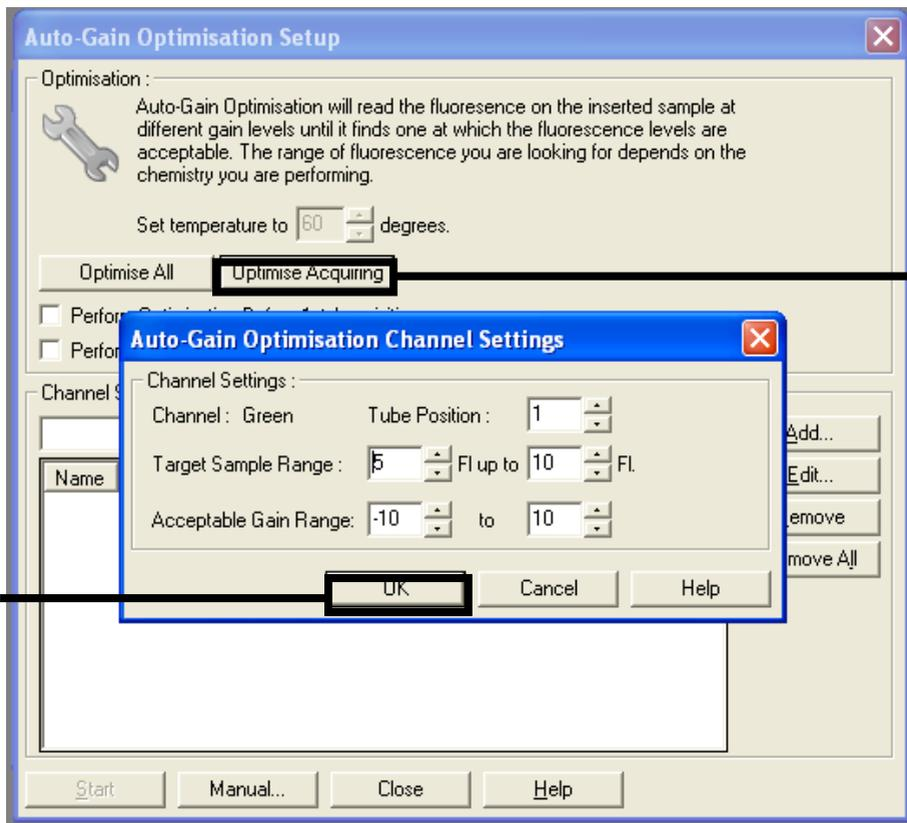

Figure 19. "Auto-gain Optimization" for the green channel.
13. Click "Optimize Acquiring." Channel settings are displayed for each channel. Accept these default values by clicking "OK" for both channels (Figure 19).